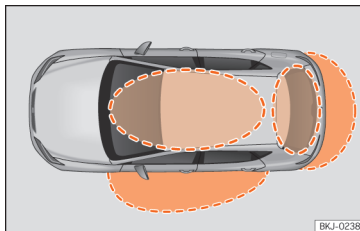
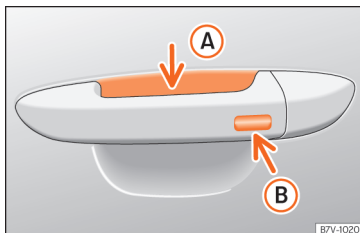

Fig. 87 Keyless Access: proximity zones.
Fig. 88 Door handle: sensor surfaces
»» **Fig. 88**
Keyless Access is a key-free locking and ignition system to unlock and lock the vehicle without actively using its key. To do this, all that is required is to have a valid vehicle key in the detection area where you are attempting to access the vehicle »» Fig. 87 and to touch one of the sensor surfaces on the door handles »» Fig. 88 »» ❶.
If a valid key is in the proximity of the car »» Fig. 87, the Keyless Access locking and starting system gives the key entry as soon as
- Grip the driver door handle. When you do this, you touch the sensor surface »» Fig. 88 ❶ (arrow) of the handle and the vehicle unlocks.
- Touch (*once*) the locking sensor surface »» Fig. 88 ❷ (arrow) on the driver's door handle. The door that is used must be closed.
- Touch (*once*) the sensor surface »» Fig. 88 ❷ (arrow) on the driver's door handle. The vehicle locks with the "Safe" security system »» page 104. The door that is used must be closed.
- Touch (twice) the sensor surface »» Fig. 88 (B) (arrow) of the driver door handle to lock the vehicle without activating the “Safe” security system »» page 104.
When the vehicle is locked, the rear lid automatically unlocks on opening if there is a valid vehicle key in the proximity »» Fig. 87.
- Push the central locking button  on the remote control and touch the locking sensor surface of the driver door handle »» Fig. 88 (B) within the following 5 seconds. Do not grasp the door handle; otherwise the vehicle will not unlock. Deactivation is also possible if the vehicle is locked through the driver's door lock.
To close all the electric windows and the sunroof using the **comfort function**, keep a finger for a few seconds on the locking sensor surface »» Fig. 88 (B) (arrow) of the door handle until the windows and roof have closed.
The sensor surfaces on the door handles could engage if hit with a water jet or high pressure steam if there is a valid vehicle key in the proximity. If at least one of the electric windows is open and the sensor surface »» Fig. 88 (B) (arrow) on one of the handles is activated continuously, all windows will close.